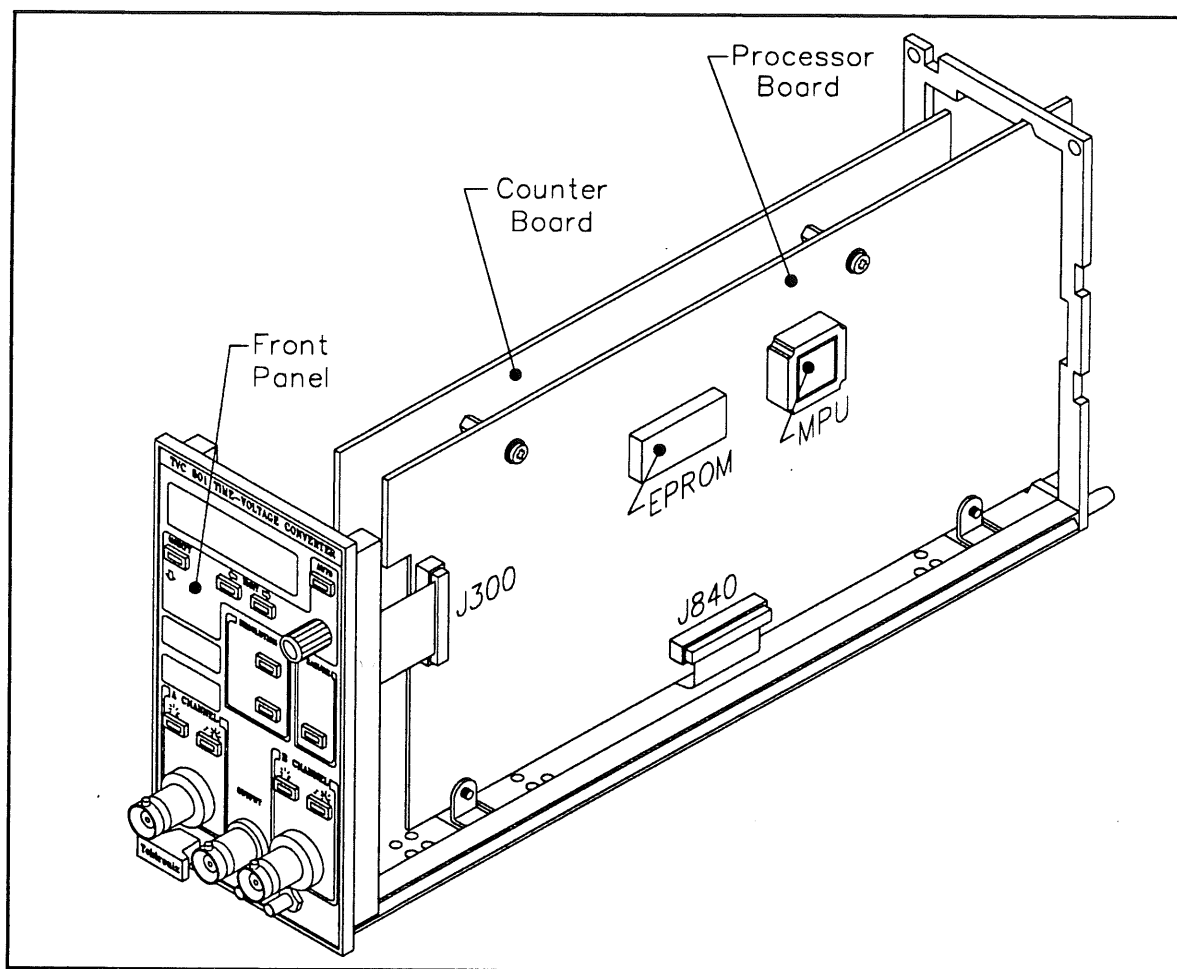
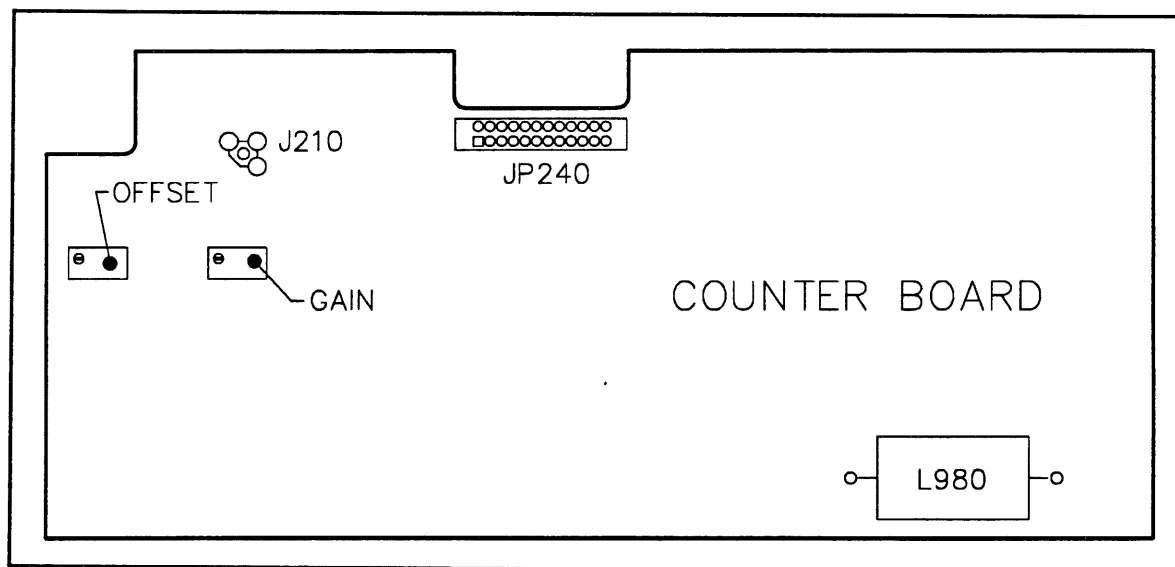
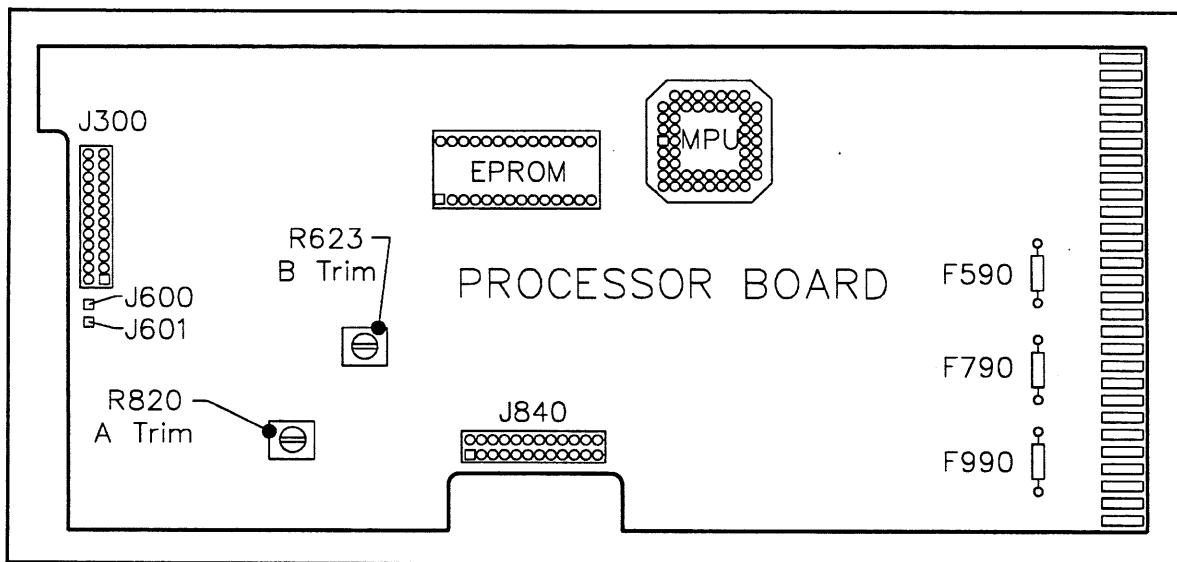

Figure 3-3. Location of TVC 501 Circuit Boards.
Figure 3-4. Offset and Gain Adjustment Locations.
Figure 3-5. Trigger Offset Adjustment Locations.
2. Adjust the **OFFSET** potentiometer, located on the counter circuit board, until the digital voltmeter displays a reading between -423.0 mV and -423.6 mV. Figure 3-3 shows the location of the counter board and Figure 3-4 shows the location of the **OFFSET** potentiometer.
2. Adjust the **GAIN** potentiometer, located on the counter circuit board, until the digital voltmeter displays a reading between +423.6 mV and +423.0 mV. Figure 3-4 shows the location of the **GAIN** potentiometer.
2. Adjust the **A TRIM** potentiometer (R820), which is located on the processor circuit board, until the TVC 501 readout displays **ChA .00**. Refer to Figure 3-3 for location of the processor circuit board. Figure 3-5 shows the location of R820.
2. Adjust **B TRIM** potentiometer (R623), which is located on the processor circuit board, until the TVC 501 readout displays **Chb .00**. Figure 3-5 shows the location of R623.